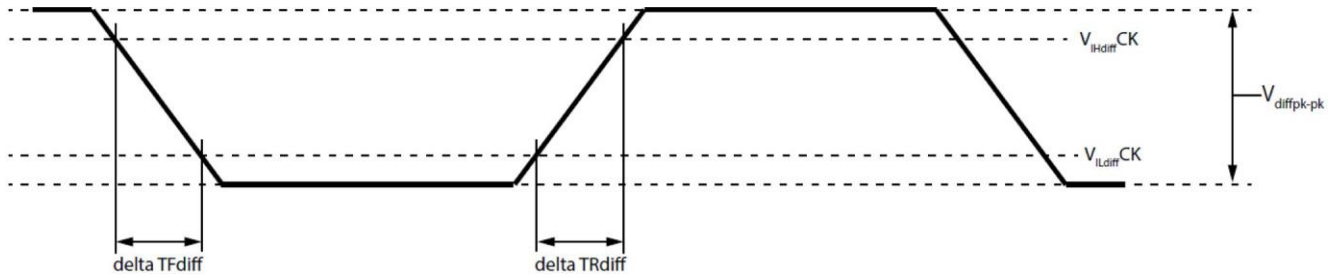

Figure 18. Differential Input Slew Rate Definition for CK_t, CK_c
- 1) V_{diffpk-pk} defined in Figure 18.